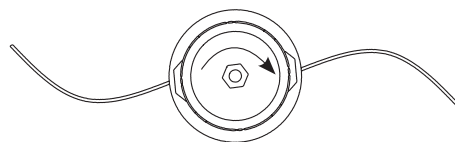

Fig.29
10. While holding reel into body, screw bump feed button and nut onto threads by turning CW (Fig. 29).